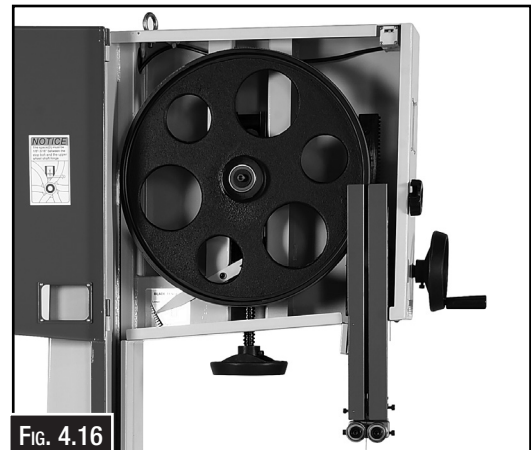

FIG. 4.16
2. Open the upper and lower covers. (Fig. 4.16)